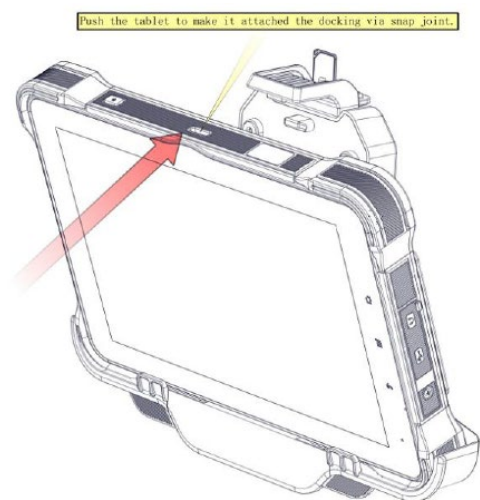

Fig. 4-4
4. Push the tablet to make it attached the docking via snap joint, as Fig. 4-4 shown.